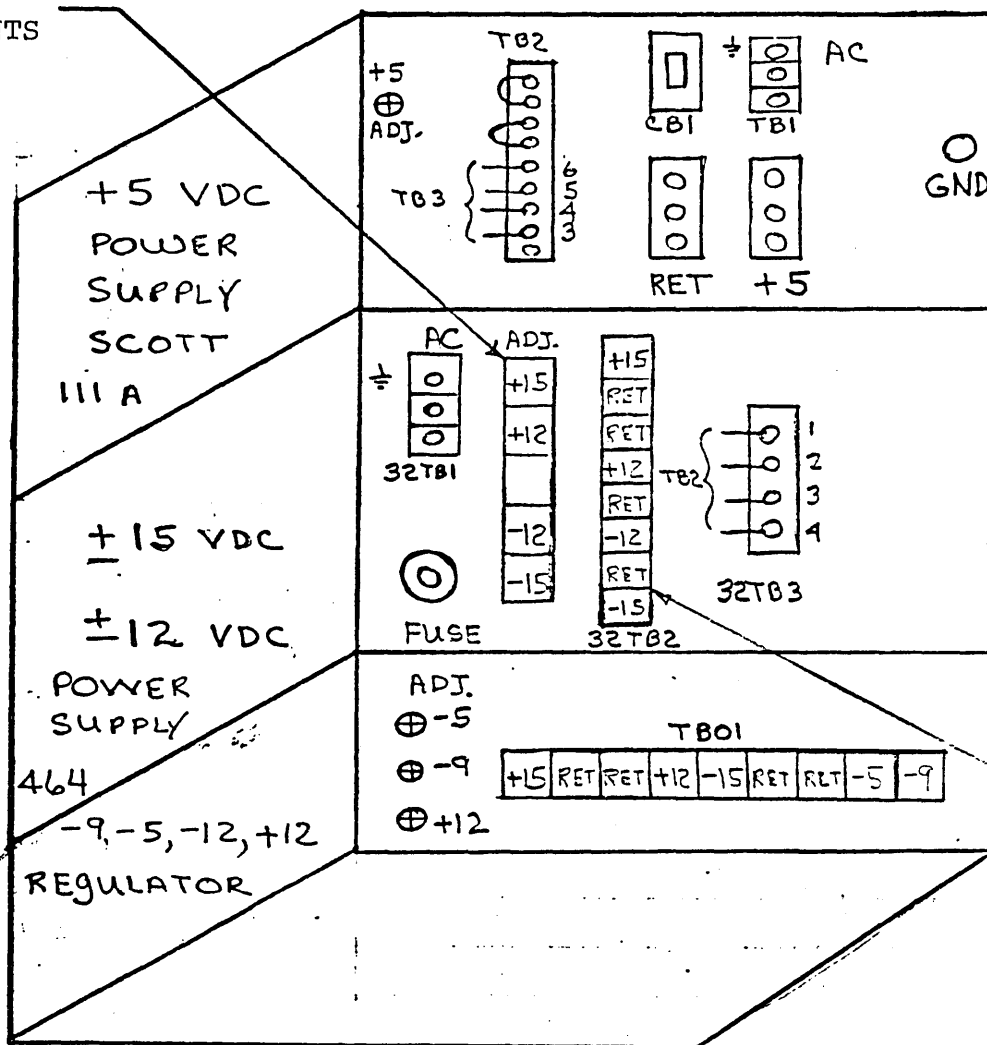

Figure 6A-8. Scott Power Supply for MP +/-12 vdc Test Points and Adjustments
3. Perform the following {Figure 6A-9}: Set a multimeter to a range capable of displaying 120VAC. Connect the negative lead of the multimeter through the cover plate of TB1 on the +15V/+12V power supply terminal 3.